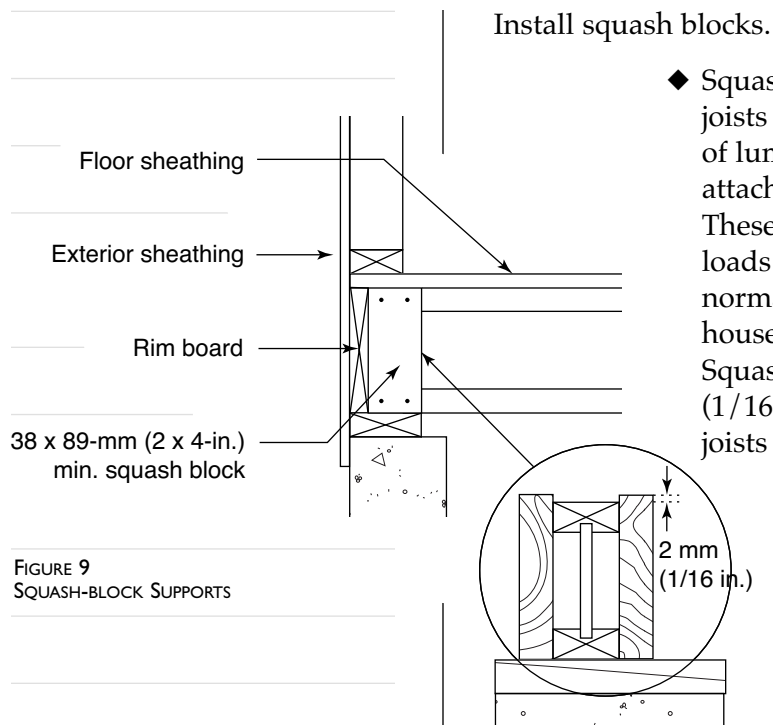

FIGURE 9
- ◆ Squash blocks are an alternative to rim boards or rim joists and blocking panels. Squash blocks are pieces of lumber (usually 38 x 89 mm [2 x 4 in.]) that are attached to the sides of the manufactured floor joists. These squash blocks are used to transfer the vertical loads through the floor system. Squash blocks are normally used on the main floor of a two-storey house and in combination with a single rim board. Squash blocks are to be cut approximately 2 mm (1/16 in.) longer than the depth of the wood-I floor joists (see Figure 9).